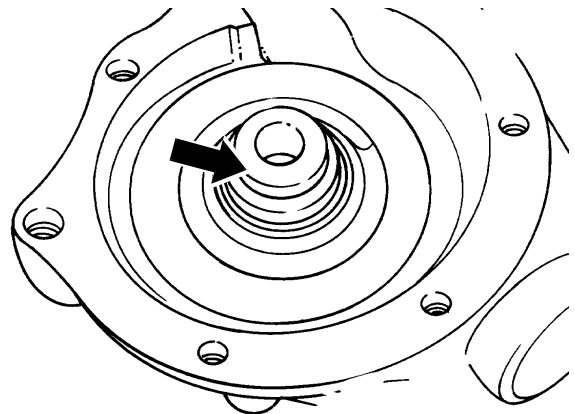

Figure 86 - Mechanical Seal - Removal
- h. Remove the mechanical seal (Fig 86) and the rear sealing ring from the coolant pump housing using a suitable drift and a hammer.